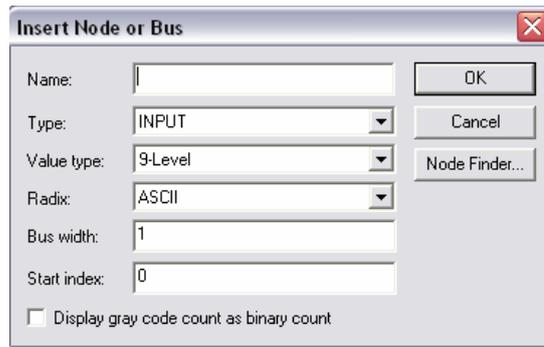
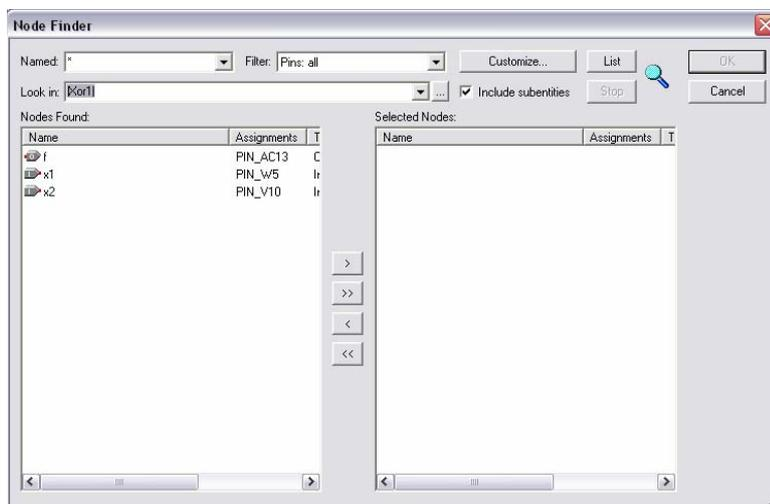
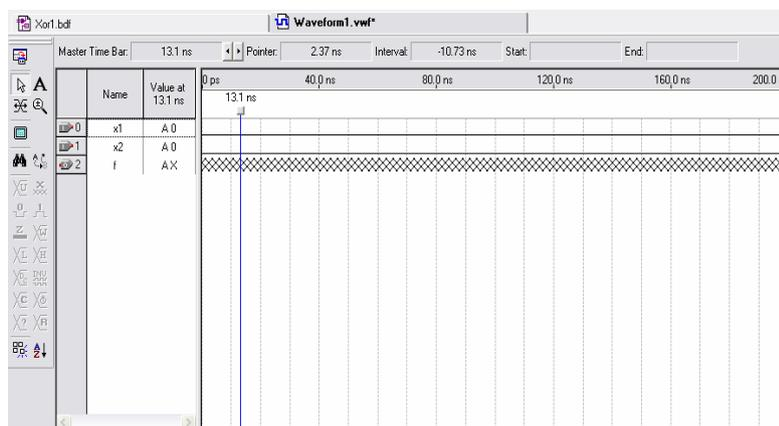

Figure 29. The Insert Node or Bus dialogue.
Figure 30. Selecting nodes to insert into the Waveform Editor.
Figure 31. The nodes needed for simulation.
3. Next, we want to include the input and output nodes of the circuit to be simulated. Click **Edit > Insert > Insert Node or Bus** to open the window in Figure 29.
It is possible to type the name of a signal (pin) into the Name box, but it is easier to click on the **Node Finder** button to open the window in Figure 30. The Node Finder utility has a filter used to indicate what type of nodes are to be found. Since we are interested in input and output pins, **set the filter to Pins: all**. Click the **List** button to find the input and output nodes as indicated on the left side of the figure.
Click on the x1 signal in the Nodes Found box in Figure 30, and then **click the > sign** to add it to the Selected Nodes box on the right side of the figure. Do the same for x2 and f. Click **OK** to close the Node Finder window, and then click **OK** in the window of Figure 29. This leaves a fully displayed Waveform Editor window, as shown in Figure 31. If you did not select the nodes in the same order as displayed in Figure 31, it is possible to rearrange them. To move a waveform up or down in the Waveform Editor window, click on the node name (in the Name column) and release the mouse button. The waveform is now highlighted to show the selection. Click again on the waveform and drag it up or down in the Waveform Editor.